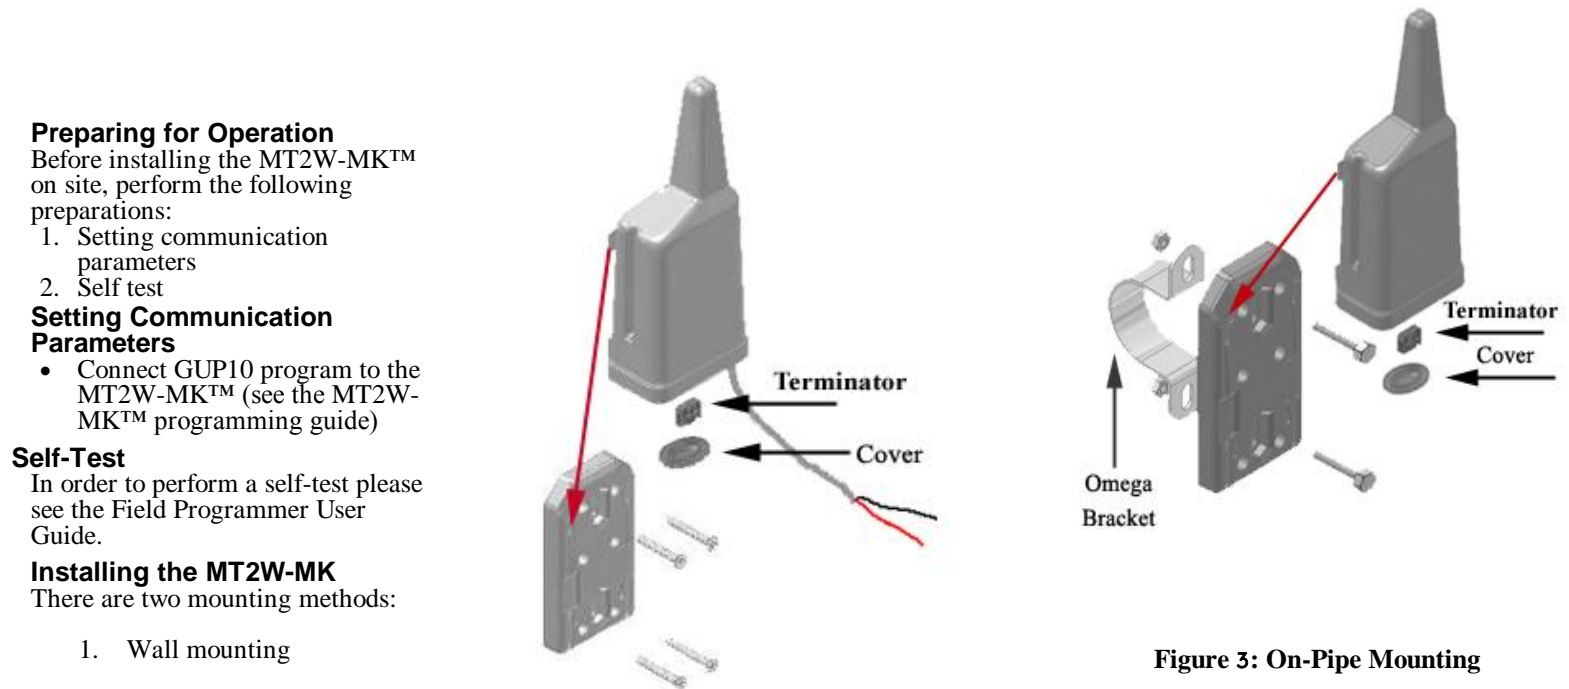

Figure 3: On-Pipe Mounting
- Fasten the mounting bracket on the pipe with two screws and the "Omega" bracket (See figure 3)